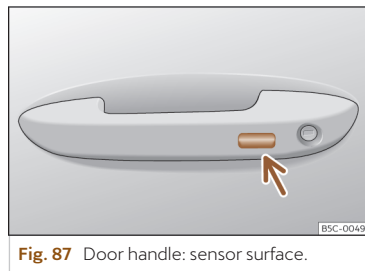

Fig. 87 Door handle: sensor surface.
- **OR:** using the Keyless Access system (only locking): Press and hold the locking sensor surface >>> **Fig. 87** (arrow) on the door handle for several seconds to close the windows and the sunroof. If you stop touching the sensing surface, the locking function is interrupted.
Press and hold the locking sensor surface >>> Fig. 87 (arrow) on the door handle to close the sunroof. If you release the sensor surface, the closing movement stops.